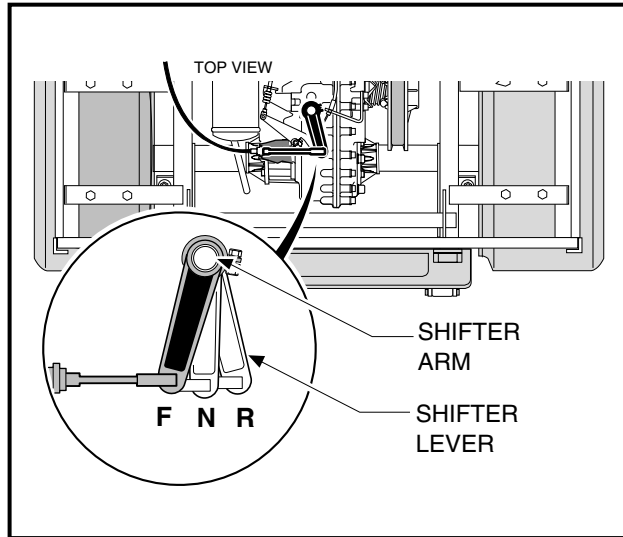
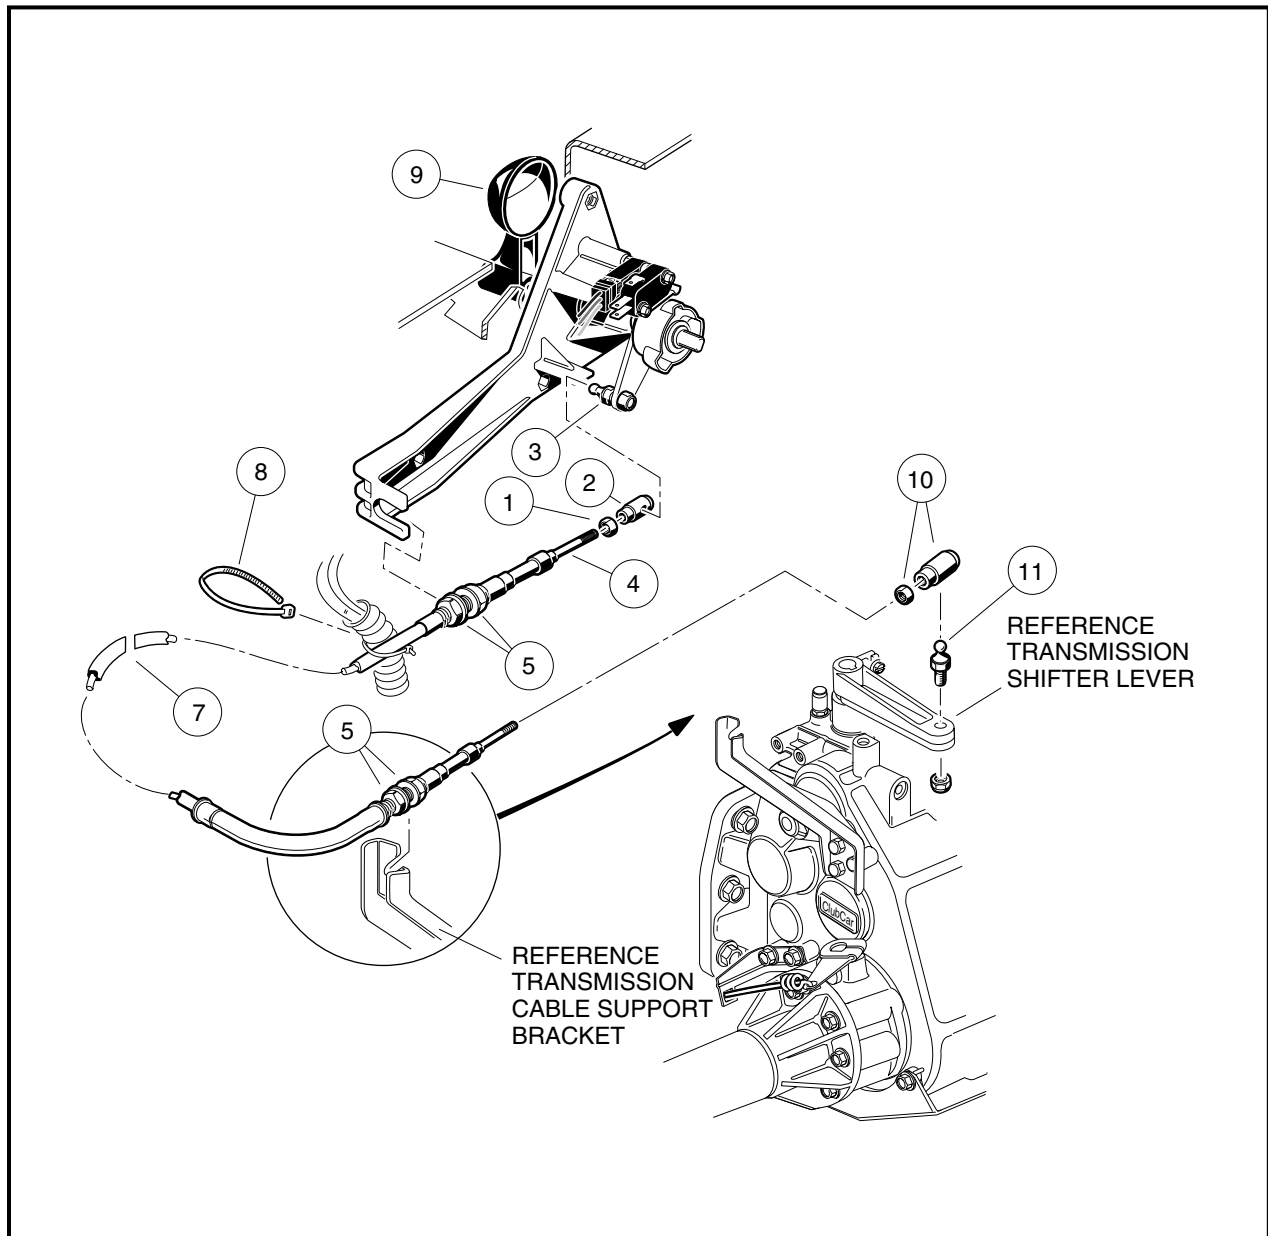

Figure 16-61 Forward/Reverse Positions
Figure 16-62 Forward/Reverse Shifter Cable
1. Remove the ball joint socket (2) from the Forward/Reverse shifter assembly ball stud (3) (**Figure 16-62, Page 16-25**).
2. Remove the ball joint socket (10) from the shifter arm ball stud (11) on the transaxle.
3. Loosen the retaining nuts (5) on both ends of the cable and remove the wire tie and cable.
2. Secure the cable with retaining nut (5) on each side of the shifter cable support bracket at the transaxle (**Figure 16-62, Page 16-25**) and tighten nuts to 22 ft-lb (29.8 N·m).
3. Secure the cable with retaining nut (5) on each side of the shifter cable support bracket at the Forward/Reverse assembly and tighten nuts to 22 ft-lb (29.8 N·m).
4. Install the ball joint socket (10) on the shifter lever ball stud (11) on the transaxle.
5. Install the ball joint socket (2) on the Forward/Reverse shifter assembly ball stud (3).
6. Install wire tie (8) to secure wire harness to cable at the support bracket near the Forward/Reverse shifter assembly. **See following WARNING.**
Place the shift lever in the NEUTRAL position (straight up) (Figure 16-62, Page 16-25). For minor adjustments, the nut (1) may be loosened and the ball joint socket (2) rotated to get the proper adjustment (Figure 16-62, Page 16-25). See following CAUTION.
For major adjustments, the cable retaining nuts (5) must be loosened and adjusted. When the cable is properly adjusted, with the Forward/Reverse handle (9) (**Figure 16-62, Page 16-25**) in the NEUTRAL position, the shifter lever of the transaxle will also be in the NEUTRAL position (**Figure 16-61, Page 16-24**). Retighten nuts to 22 ft-lb (29.8 N·m).